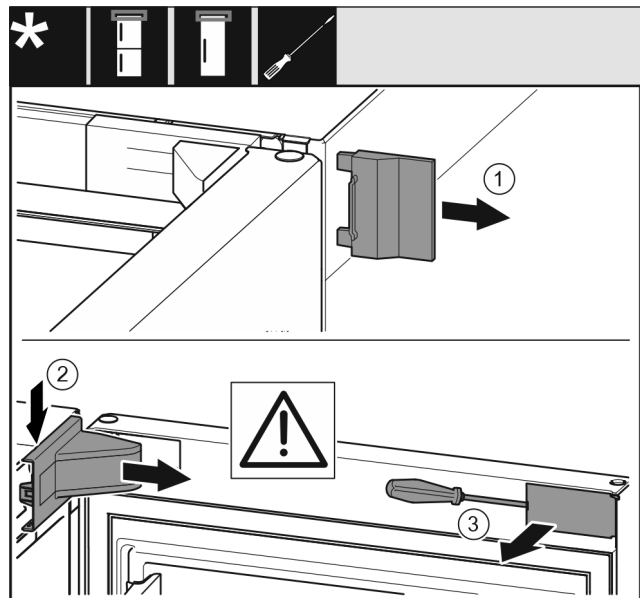

Fig. 10
- ▶ Remove the outer cover Fig. 10 (1).
- ▶ Disengage and remove the swap bearing block cover *Fig. 10 (2)*.
- ▶ Use a slotted screwdriver to unlatch the trim *Fig. 10 (3)* and swing it to the side.